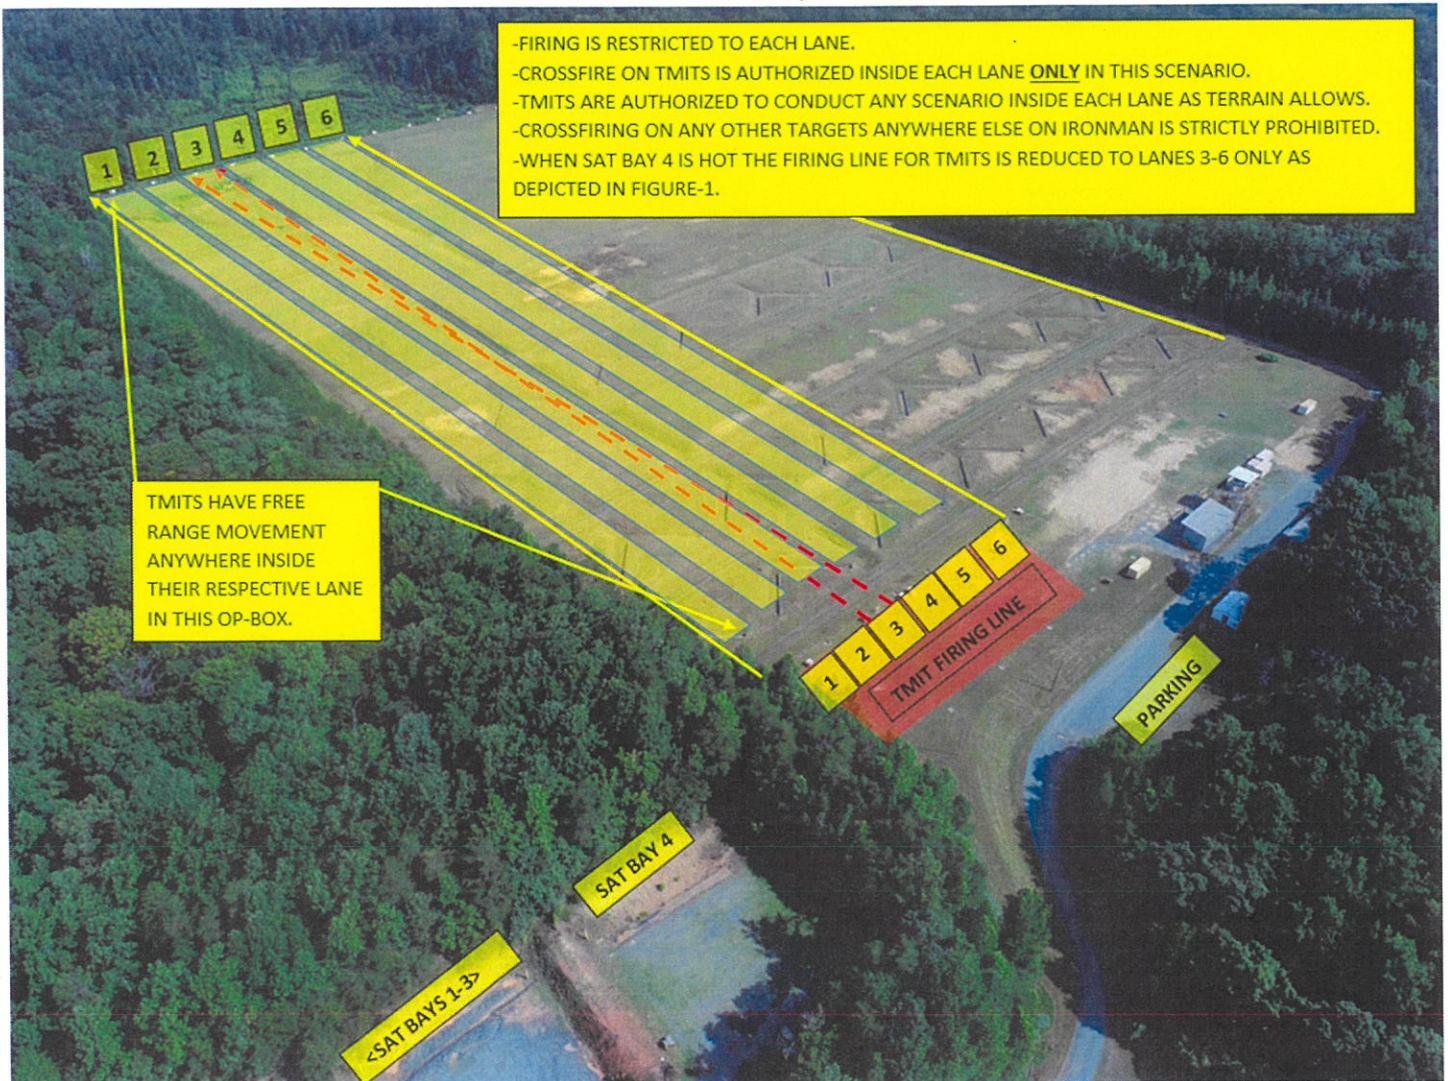

FIGURE-3
(2) TMIT Op-Box-2 (Figure-3) (18.5m wide x 400m deep lanes):
- TMITs are authorized to conduct any scenario inside each lane as indicated in Figure-3 as the terrain and caliber restrictions allow.